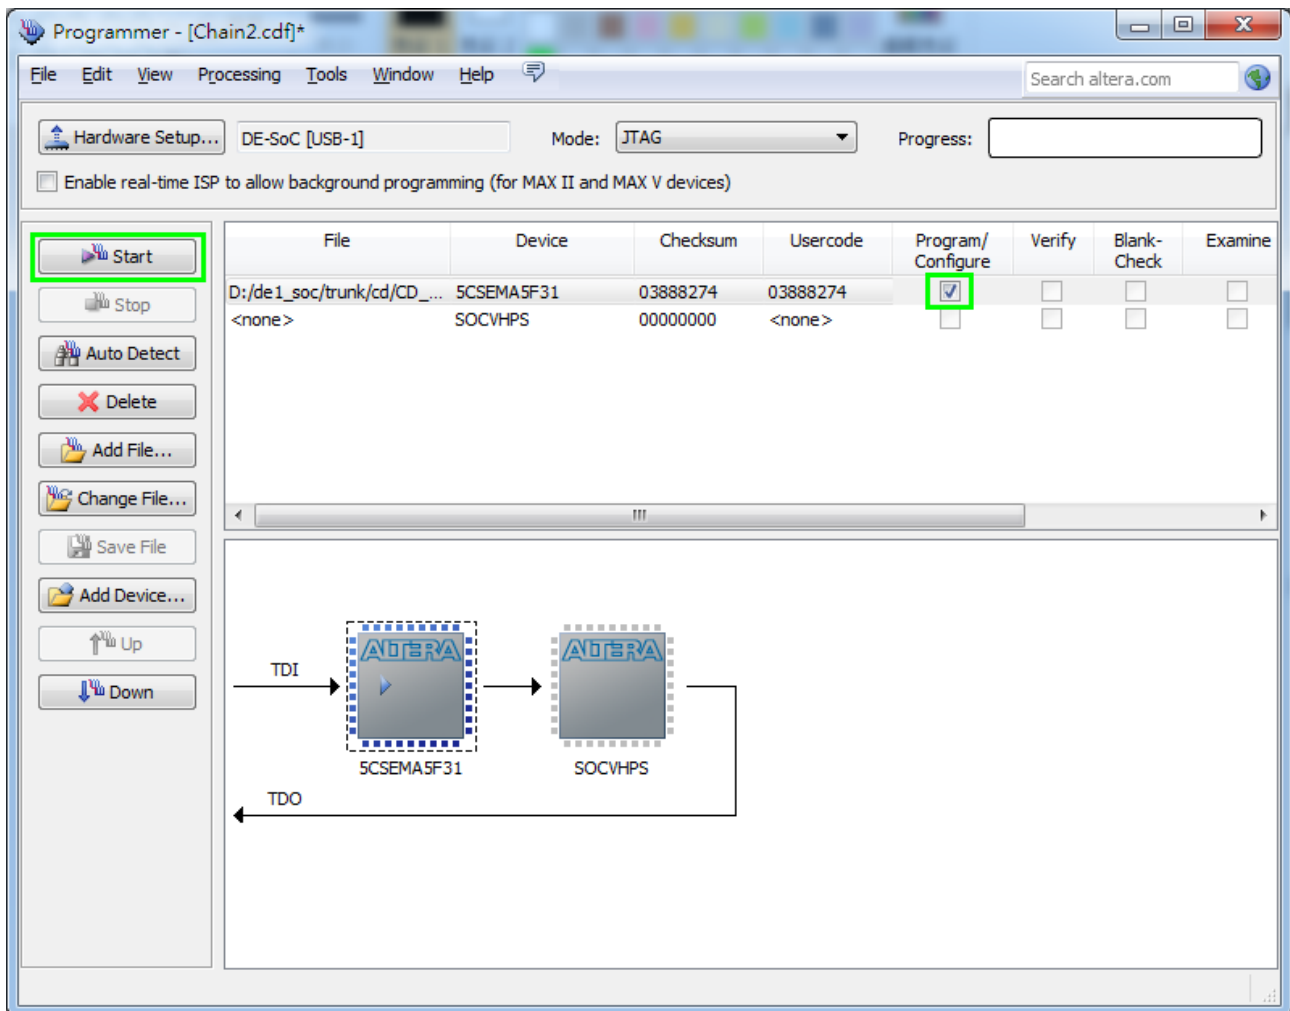

Figure 3-7 FPGA JTAG Programming Steps 6
- Click “Program/Configure” check box, and then click “Start” button to download .sof file into FPGA as **Figure 3-7**